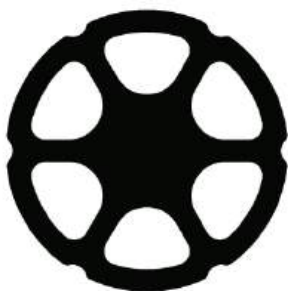

Fig. 7 Chemraz[®] valve, optional
- CHEMRAZ[®] has six grooves in its outer contour (see Fig. 7)